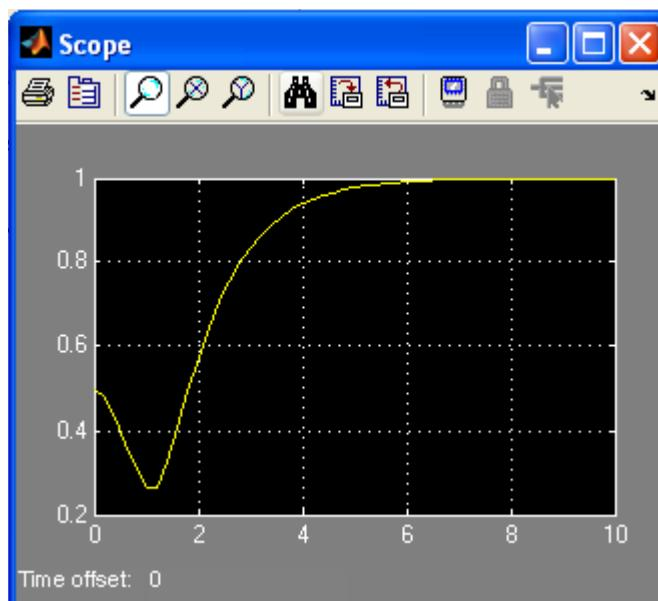

Figure 1.13. The waveform for the function $v_C(t)$ for Example 1.1
9. To see the output waveform, we double click on the **Scope** block, and then clicking on the  Autoscale icon, we obtain the waveform shown in Figure 1.13.